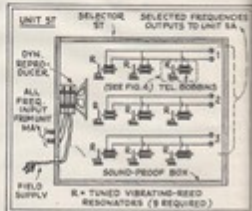
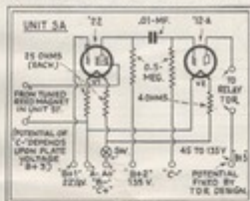
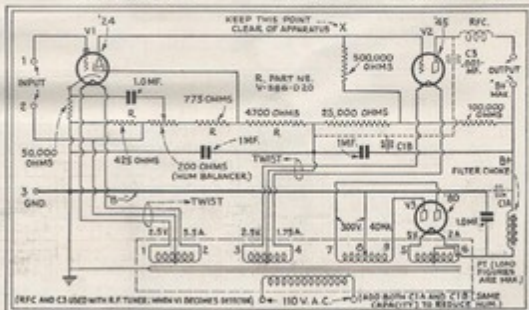
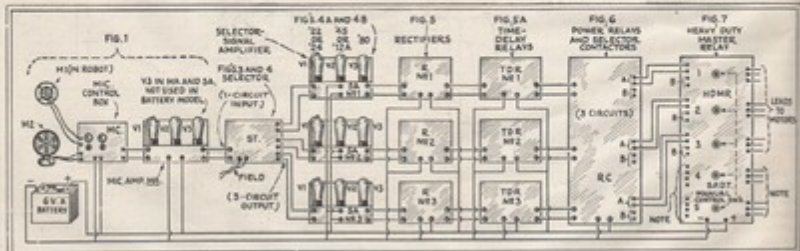

Fig. 3
Fig. 4B
Fig. 4A
Fig. 2
Fig. 2 is a pictorial layout of the signal-selector system, whereby a pre-determined series of notes of different pitches and timbres are used to actuate the mechanical man. Examining the layout from left to right, it will be noted that the microphone M1 (the one concealed within the robot) is connected to a microphone control box (G) in Fig. A.) This connects to the input of a high-quality amplifier, such as an Electrad direct-coupled Type A-245 unit, Fig. 4A. The output of this microphone amplifier, connects to a three-section selective tuning device ST, which is the portion of the apparatus that picks out or responds to the particular actuating notes or tones.
The output of the "mike" amplifier (M.A., Fig. 2) is connected directly to the voice coil of a small dynamic reproducer, mounted within a sound-proof wooden box (ST) containing nine differently tuned vibrator reeds. There are nine electromagnets, one in front of each vibrator reed; three of them being connected in parallel on each of the three electrical circuits, as shown in Fig. 3.
The feeble induced current flows into the corresponding selector-signal amplifier SA. There are three of these amplifiers, one for each of the three circuits. (Electrad Loftin-White A-245 amplifiers may be used for this purpose; the circuit connections are shown in Fig. 4A.) The main function of these amplifiers is to give voltage amplification and hence a "space-charge" amplifier having a screen-grid tube and a '2A tube would serve the purpose. (See Fig. 4B).
Schematic circuit of the direct-coupled amp, recommended by the author for use as a selector amplifier. The number of amplifiers used is determined by the desired number of actions, those being described by the author and illustrated in Fig. 2.
One of the units rectifying the output of a selector unit (Fig. 3).
This relay gives a delay of about a minute; its winding is connected in series with the plate circuit of a rectifier (Fig. 3).